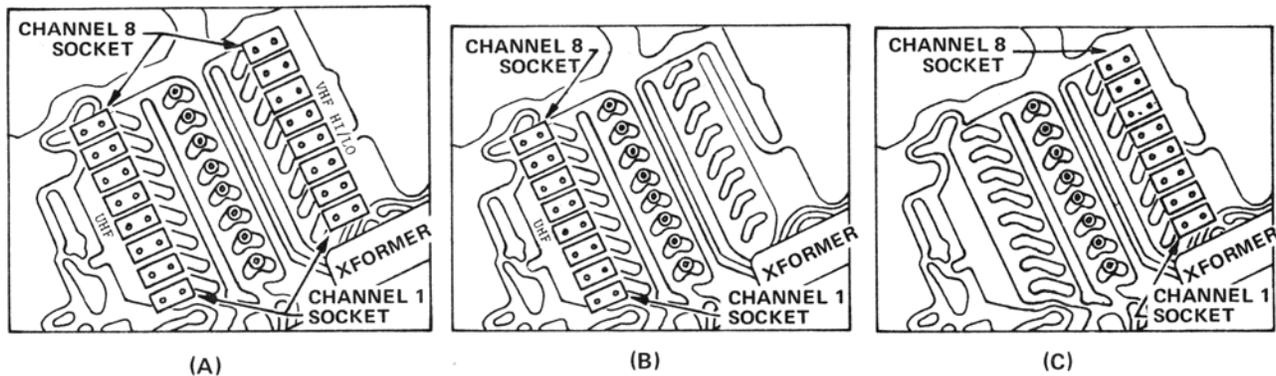

Figure 2-1. Crystal Socket Locations for (A) Models 308 and 216, (B) Models 208A, 108H and 108L and (C) Model 108U
Up to 16 crystals may be installed in the SCAN Model 308 at one time. Eight crystals may be UHF and eight crystals may be any combination of high or low VHF. Care must be taken to install the UHF crystals in the proper bank marked UHF. The VHF High or Low must be installed in the bank marked VHF (behind transformer). See Figure 2-1(A).
The SCAN 208A operates in the High and Low VHF bands only. Up to eight crystals may be installed in any combination of VHF High or Low channels. See Figure 2-1(B). This model also utilizes a 2-position program switch on the rear panel.
Each model in this series operates on a single band as described in Section 1.1. Therefore, all crystals used must be for the appropriate band. See Figure 2-1(B) and (C). No program switch is required for these units.